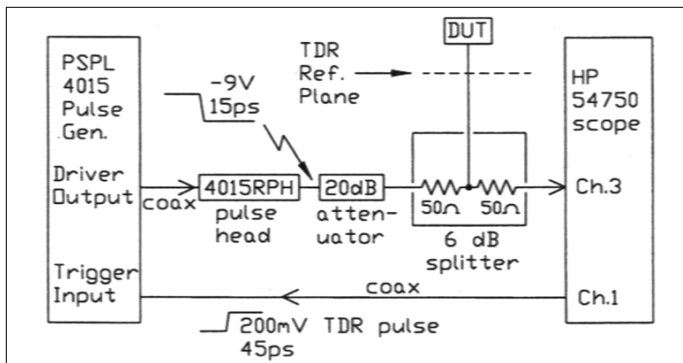

Figure 11: 10 ps TDR Measurement Setup
2. Consult Figure 11 for the 10 ps TDR test setup. Remove the 2.4 mm f/f barrel adapter from the channel 3 input connector. Attach one of the 50 Ohm arms of the HP-11667C, 2.4 mm, 6 dB power splitter directly to the channel 3 input. Note: The port on the power splitter labeled "Input" is the TDR reference port. Attach a 50 Ohm termination to the TDR reference port. Attach an HP-33340D, 2.4 mm, 20 dB attenuator to the other 50 Ohm arm of the power splitter. Attach a 2.4 mm / 2.92 mm (or 2.4/3.5 mm) coax adapter to the attenuator. Alternatively, a PSPL 5510-K20dB attenuator could be used. Now attach the PSPL Model 4015RPH Pulse Head to the attenuator. Use a short, microwave-quality, SMA, coax cable to connect the 4015 pulse generator "Driver Output" to the Pulse Head. Use an ordinary SMA coax cable to connect the TDR output pulse from the HP scope's channel 1 connector to the 4015 Pulse Generator's SMA "Trigger Input" connector. If you are using the 4015C, then also set the Rep. Rate control to "EXT".